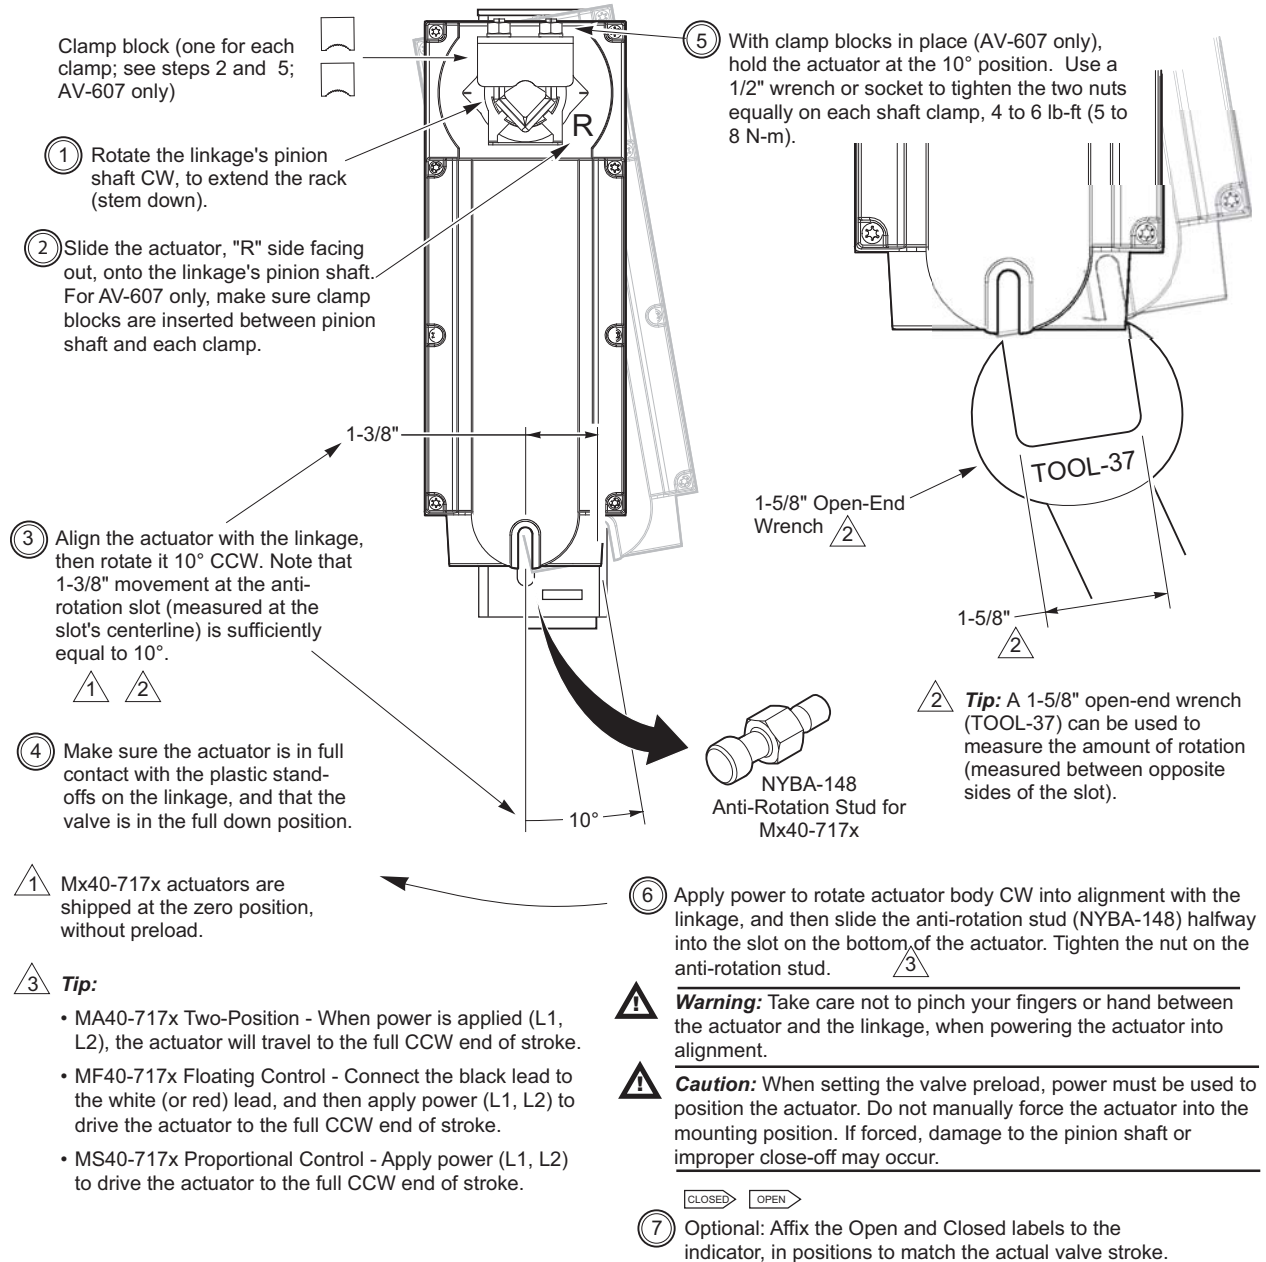

Figure-15 Mounting Mx40-717x and Setting Up Actuator/Linkage/Valve Assembly
- a. Install the actuator onto the linkage and valve, and set up the assembly, according to Figure-15. Use the two clamps supplied with the linkage.